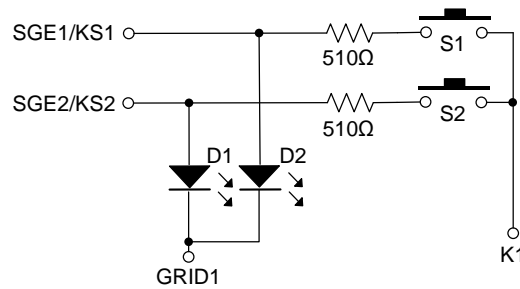

Figure 11.
2. Connect the resistors in series on SEG1 - SEG N, as shown in Figure 11 the resistance should be 510 Ω too large resistance will cause key invalid, and too low resistance can't solve the problem of display interference.